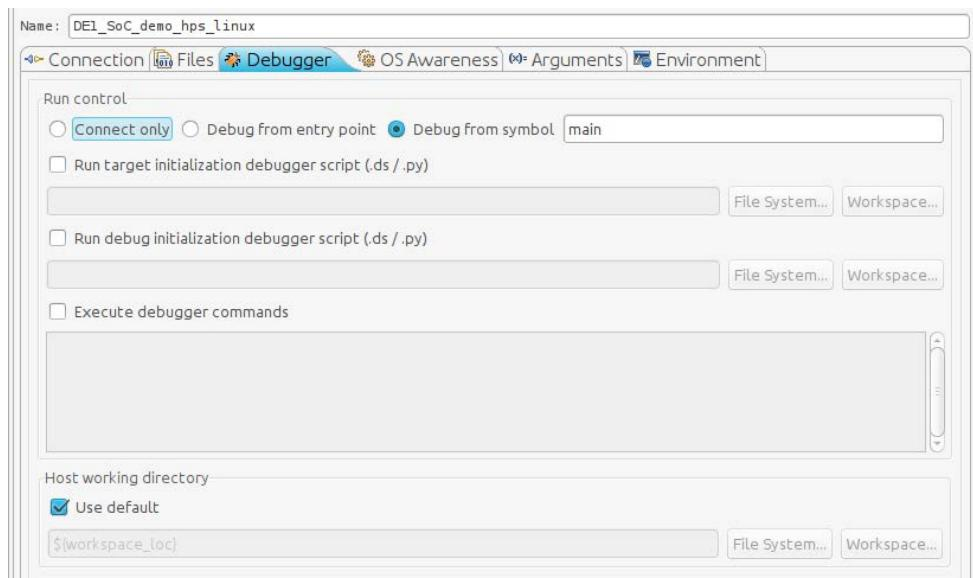

Figure 13-16. Debug Configuration "Debugger" Tab
80. Under the “Debugger” tab, make sure that “Debug from symbol” is selected and that “main” is the name of the symbol, as shown in Figure 13-16.